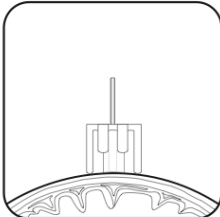

Figure 1: Place Drill Bit Assembly into Tripod and position perpendicularly on cranium.
- ⇒ Place the Drill Assembly into the Tripod and ensure all three legs of the Tripod are in contact with the scalp or skull. Use the Tripod to position the Drill Assembly (Fig. 1) perpendicularly on the cranium.